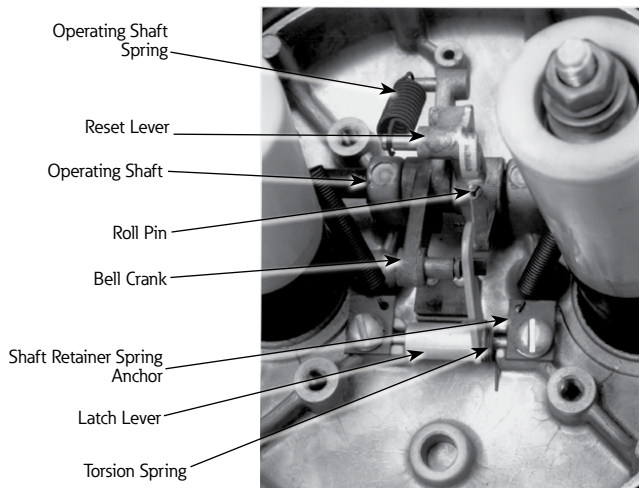

Figure 16. Components of head mechanism assembly.
4. With a hammer and punch, drive out the roll pin that secures the reset lever to the operating shaft (Figure 16).
6. Install new parts as required. Be sure roll pin that fixes reset lever to operating shaft is driven in until 3/16-inch of pin projects as shown in Figure 16.